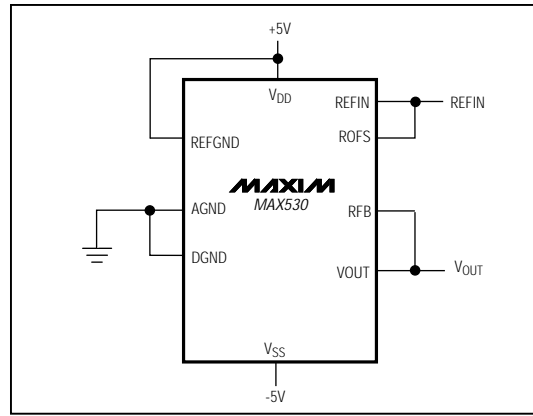

Figure 12. Four-Quadrant Multiplying Circuit
The MAX530 can be used as a four-quadrant multiplier by connecting ROFS to REF_{IN} and RFB to V_{OUT} and, using (1) an offset binary digital code, (2) bipolar power supplies, and (3) a bipolar analog input at REF_{IN} within the range V_{SS} + 2V to V_{DD} - 2V, as shown in Figure 12.